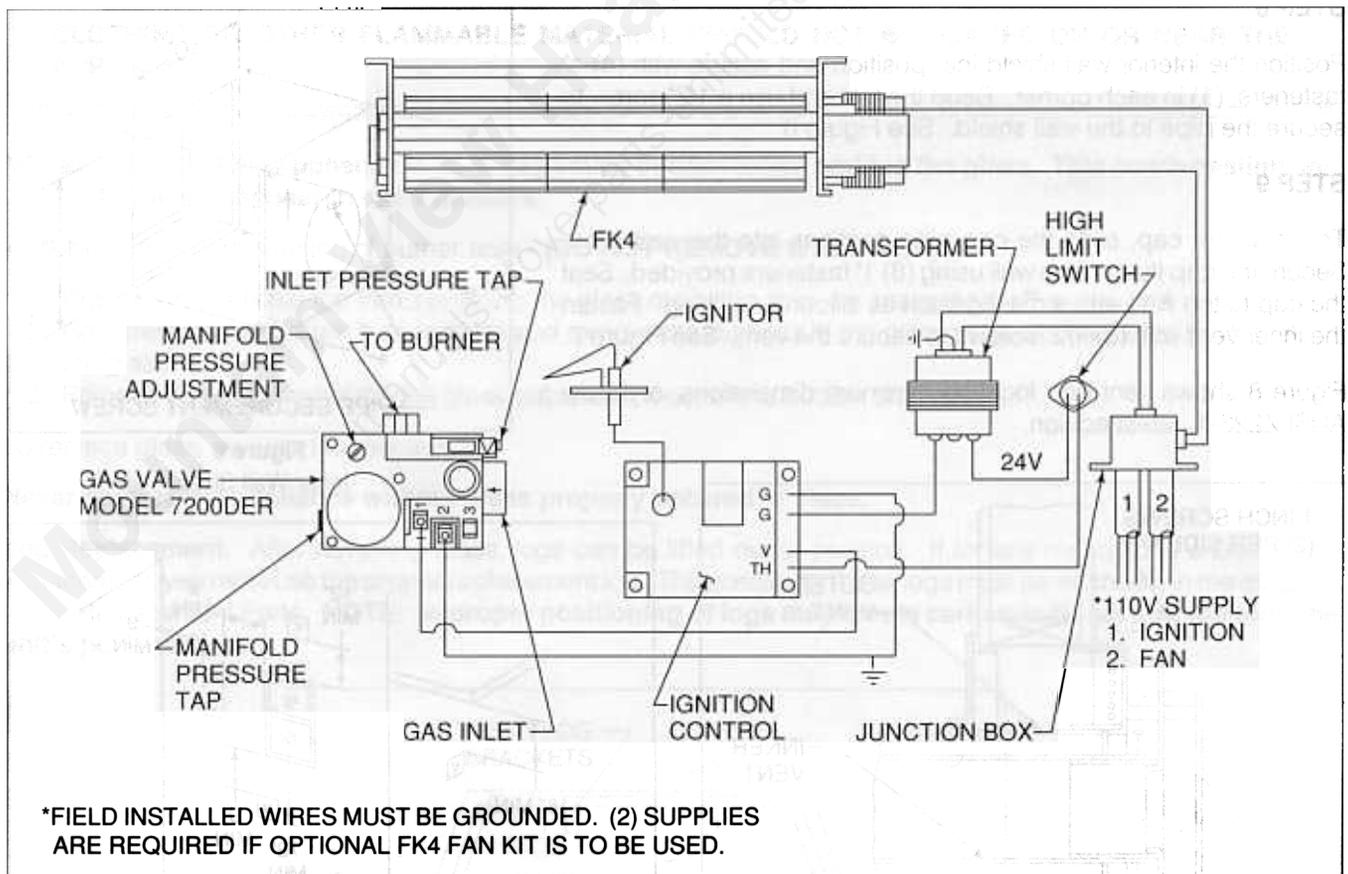

Figure 9
Remote wall switch hook-up should be installed in a convenient location. Follow Figure 9 for wiring diagram. This appliance requires a 110V power supply. If an optional FK4 Fan Kit or RC5 Remote Control Kit are to be used, wiring should be done at this time. The appliance must be electrically wired and grounded in accordance with local codes or, in the absence of local codes, with National Electric Code ANSI/NFPA 70-latest edition. Wiring diagrams are provided with these accessories and in Figure 9. This appliance is not intended for use with a thermostat.
### LIGHTING PROCEDURE (See Figure 9).
B. No ground.	Check that wiring is grounded as shown in Figure 9.